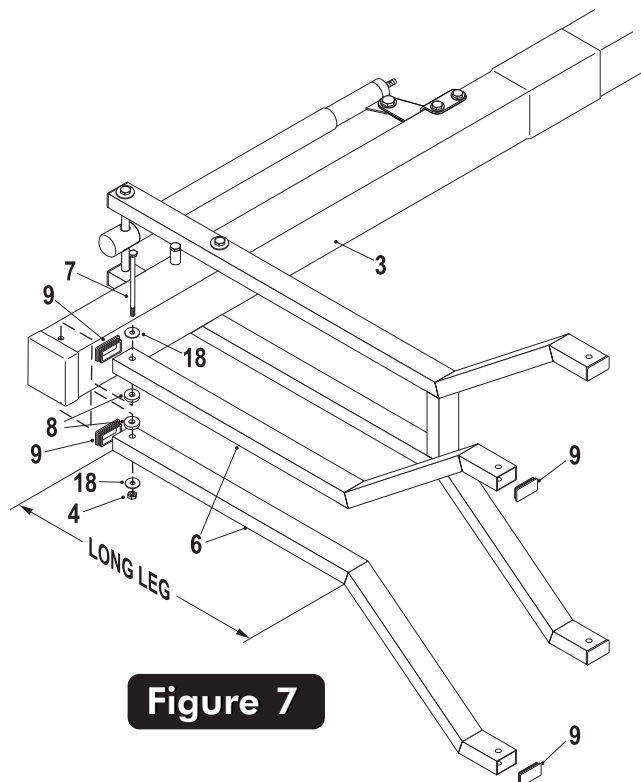

Figure 7
11. Attach long leg of Upper Arms (#6) to Top Pole (#3), as shown in Figure 7, using a bolt (#7), two flat washers (#18), two spacers (#8) and one lock nut (#4).
12. Insert four Tube Plugs (#9) into open ends of Upper Arms (#6). It may be necessary to use a rubber mallet to tap plug in. See **Figure 7. Note:** Tube plugs may be pre-installed by the factory.